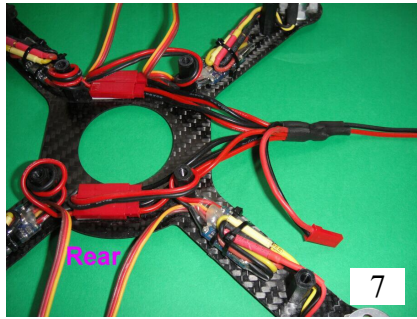

**Fig 1. Motor Identifications and Directions**
It is very important to connect the wires correctly in order that the motors run in the right directions. For clockwise rotation, connect **red – red, black – black** and **yellow – yellow**. To get anticlockwise rotation, swap any two wires. Figure 1 below details which motors must run clockwise, and which anticlockwise. Please note the curved side of the frame centre platform, which is designated as the rear. Please take care to get the connections right; note that they are different from the original QuadPod.
- 10) Next, plug the ESC control leads into the terminals labelled M1 to M4 at the front of the Naza Lite. The numbers correspond to the motor numbers in Fig 1. The **orange** wires should be positioned at the bottom. The two rear ESC leads are a little short, so they can be lengthened with the two short extension cables included. Arrange all the wiring neatly with a cable tie (Photo 12).
Having started the motors, the throttle needs to be raised above 10% within a couple of seconds, otherwise they will stop again. It's worth getting into the habit of releasing the right-hand stick before raising the throttle, so that the direction controls are at neutral before the motors rev-up. Otherwise the propellers will run unevenly and the aircraft might tip over. Bring the throttle up a little way and then check the directions of motor rotation. This can be done by gently resting a finger on each motor's shiny cylindrical surface. The motors should turn in the directions shown in Figure 1. If any of the directions are wrong then they must be corrected by swapping any two of the three motor wires - switch off and disconnect the battery first!